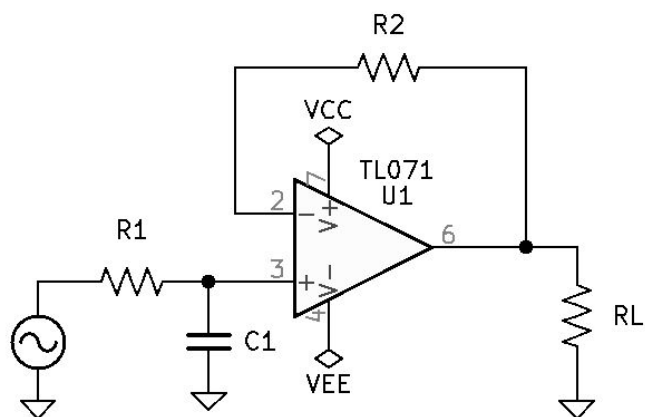

Figure 8.3: Low-Pass First-Order Active Filtering Circuit.
1. See Figure 8.3 *Low-Pass First-Order Active Filtering Circuit* on page 79.